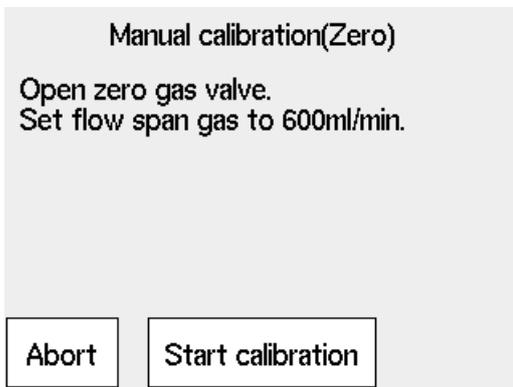

Figure 6.21 Zero gas flow rate check
- (7) Follow the instructions in the display as in Figure 6.21 to turn on the zero gas flow. Open the zero gas flow valve for the Flow Setting Unit and adjust that valve to obtain a flow of 600 ± 60 ml/min. The valve should be adjusted by loosening its lock nut and turning slowly the valve shaft counterclockwise. Use the calibration gas flowmeter to check the flow rate.